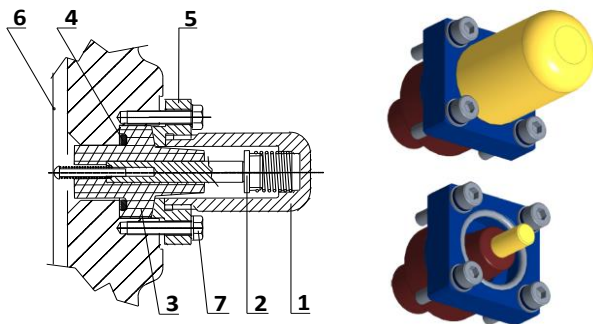

Fig. 19
Normally the measurement (C1) must be carried out between the HV terminal and the Power Factor tap (schematised in fig. 19).
Don't unscrew the screws item 7 of fig. 19, that fix the PF flange to the bushing.
Check the proper location of the tap cap and its suitable complete screwing (tightening torque: 2 Nm) to prevent entrance of moisture (fig. 19).